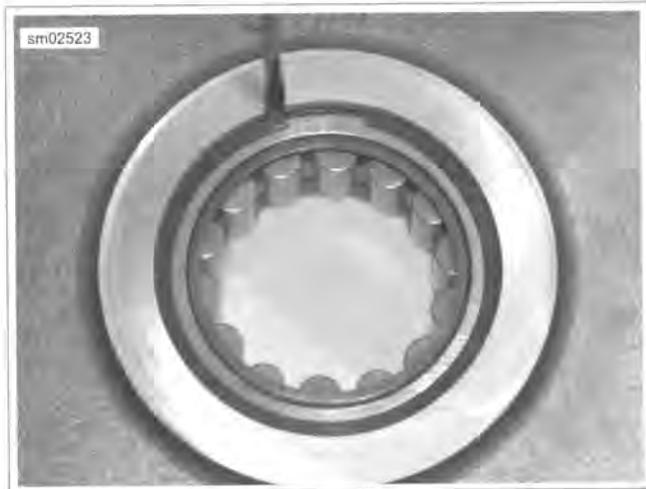

Figure 3-124. Removing Retaining Ring
5. See Figure 3-124. Using a flat blade screwdriver, carefully lift edge of bearing retaining ring up out of its groove in crankcase.